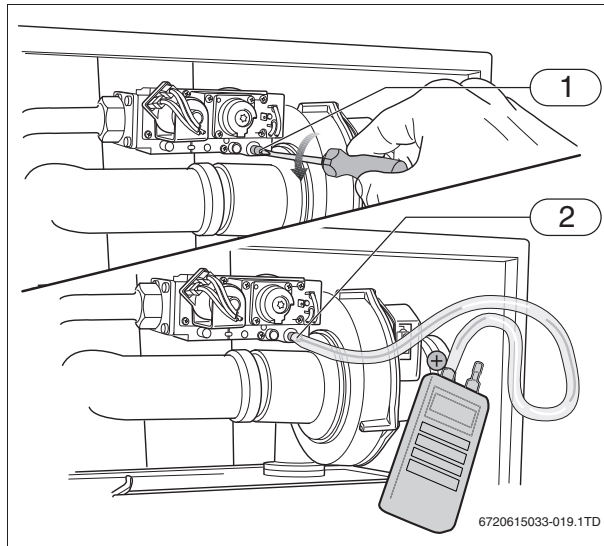

Fig. 18 Checking the gas/air ratio
- ▶ Loosen the screw plug on the measuring nipple for the burner pressure by 2 rotations (→ fig. 18 [1]).
- ▶ Use a hose to connect the plus terminal of the pressure gauge to the burner pressure measuring nipple (→ fig. 18, [2]).